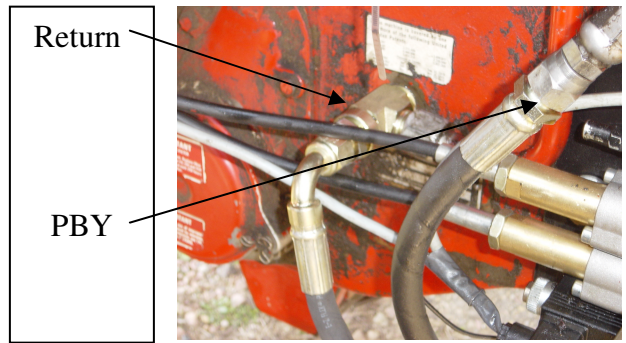

Fig 1-4
9. Now remove the existing elbow for return and install the new tee fitting with adapter (Parts #11 & 12) reinstall the hose from tractor to tee then route the 16" hose (Part #14) to the valve. **See in Fig. 1-4.**
for proper connections. **See in Fig. 1-4.**